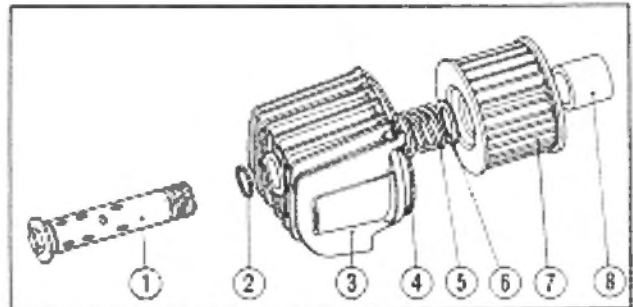

Fig. 3-28 ① Oil filter center bolt
3. Make sure the oil filter is properly assembled. (See Fig. 3-28)